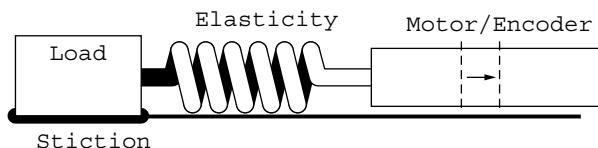

Figure 5.4: Effect of Stiction and Elasticity on Small Motions
**Figure 5.4** shows how excessive stiction and elasticity between the encoder and the load can cause the motion device to deviate from ideal motion when executing small motions.